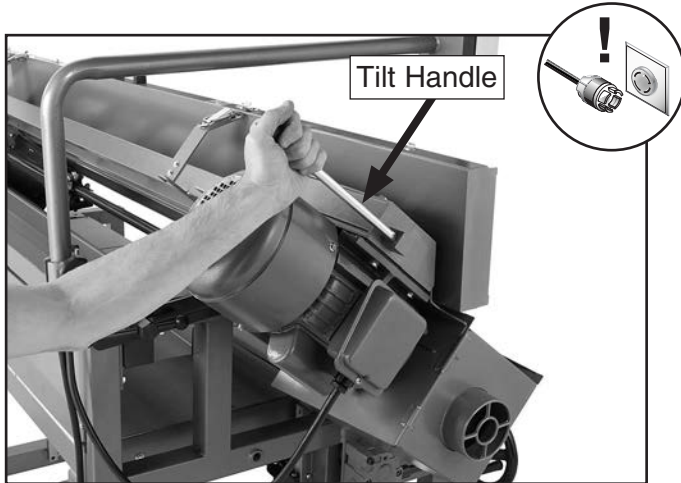

Figure 43. Tilting belt assembly.
8. Use the belt tilt handle to tilt the entire belt assembly (**Figure 43**).